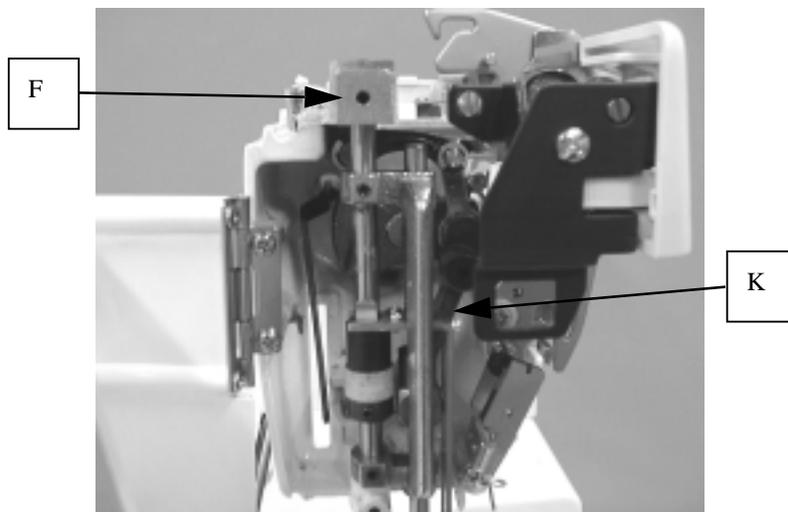

FIGURE 3-5
6. Tighten socket screw(F) lightly as shown in Fig.3-5.